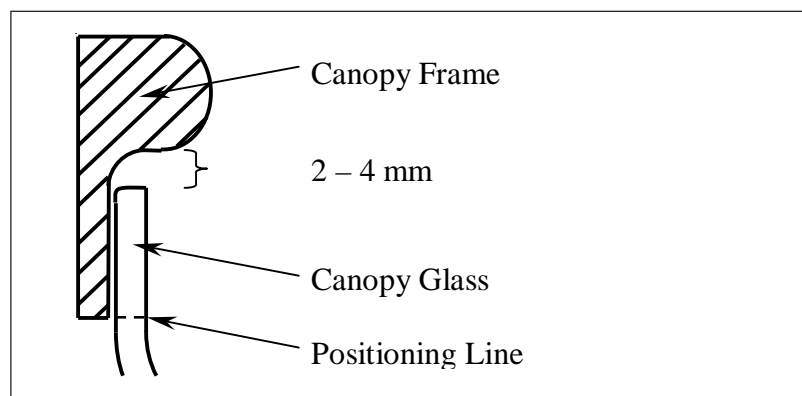
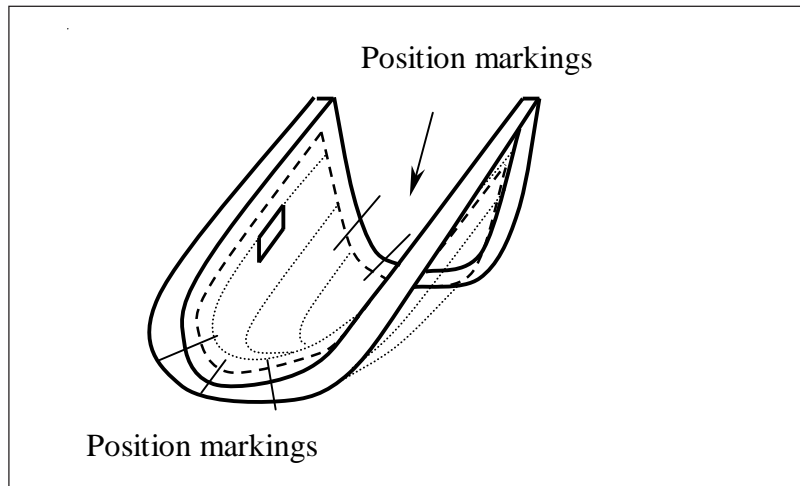

Figure 2 Typical Cross Section of Canopy Bonding Area
Figure 3 Canopy Position Markings
- 6 Secure the canopy glass in the frame. Draw a positioning line (see Figure 2) and position markings on the inside (see Figure 3).